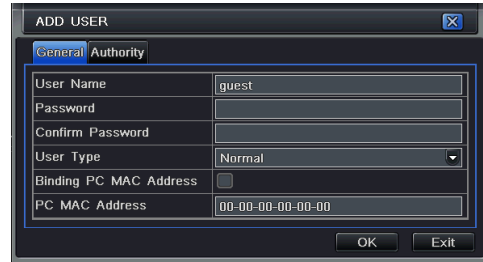

Fig 4-35 Add-General
Step 2: Click Add button to display a dialog box as Fig 4-35: